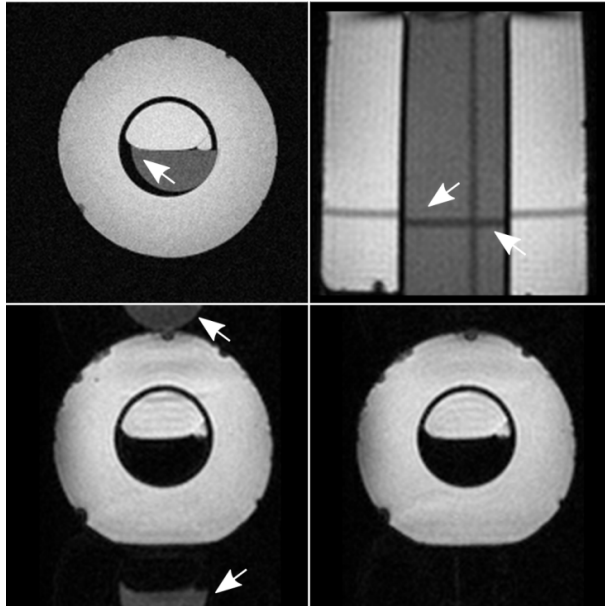

Figure 2.103: Different chemical shift artifacts (oil/water phantom)
- Shift in readout direction as shown in [Figure 2.103 \[▶ 571\]](#): top left (arrow), readout direction is left-right.
- Shift in slice position as shown in [Figure 2.103 \[▶ 571\]](#): top right (arrows), the black line is due to an orthogonal slice acquired within the same experiment.
- In EPI: Substantial shift of the fat and water signal in the phase encoding direction as shown in [Figure 2.103 \[▶ 571\]](#): lower left (arrows)
- Use fat suppression. The effect on EPI is shown in Figure 2.103 [571]: bottom left without fat suppression (arrows), vs. bottom right with fat suppression